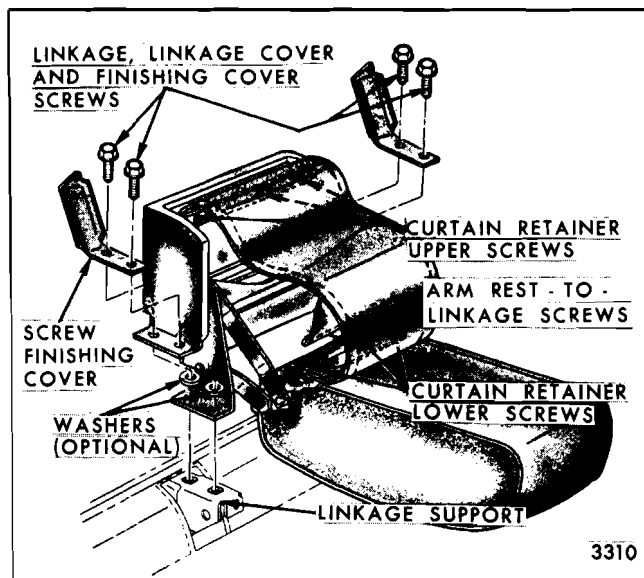

Fig. 15-39—Front Seat Center Arm Rest (Full Width Seat with Notch Down Seat Back)
2. Carefully pull curtain back sufficiently to remove screws securing center arm rest to linkage and loosen outer screws securing curtain lower retainer to arm rest (Fig. 15-39).
3. Disengage arm rest from support linkage and turn arm rest upside down on trim panel finishing cover. Remove arm rest curtain upper retainer screws (Fig. 15-39); then, remove arm rest and curtain from seat.
2. Working between arm rest and seat back, remove fastener at both sides of arm rest securing front end of screw finishing covers (Fig. 15-39).
3. On two-door styles, push one seat back to full forward position. Carefully pull up front of screw finishing cover sufficiently to expose arm rest linkage and linkage cover attaching screws; then, remove screws (Fig. 15-39). Repeat this operation on opposite side of arm rest; then, carefully remove arm rest linkage cover and linkage assembly from seat.
NOTE: If washers are present between arm rest linkage and linkage supports on seat (Fig. 15-39), note location and number of washers used to facilitate installation in same position. Washer(s) are used to align arm rest to front seat back(s).
4. To install, reverse removal procedure. Prior to bending down screw finishing covers, check alignment and operation of arm rest. Where necessary to align arm rest with seat back(s) install washer(s), as required, between arm rest support and support on seat (Fig. 15-39).